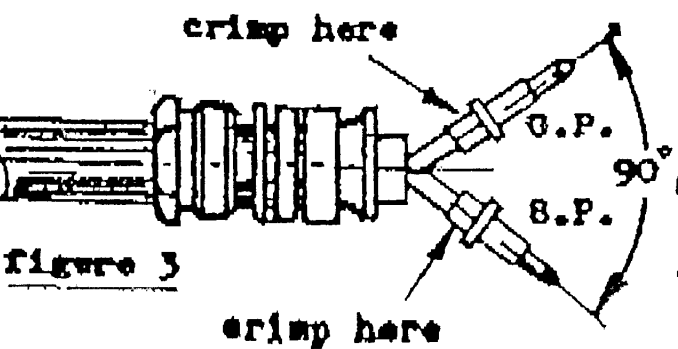

Figure 3
5. Separate the inner conductors and inner dielectrics to 90° apart as shown in Fig.3 to permit access of crimp tool dies only. Slide male gold plated contact on copper inner conductor and silver plated on tinned conductor one by one and crimp with Duocrimp 89L ensuring the male contacts ends butt against inner dielectrics.